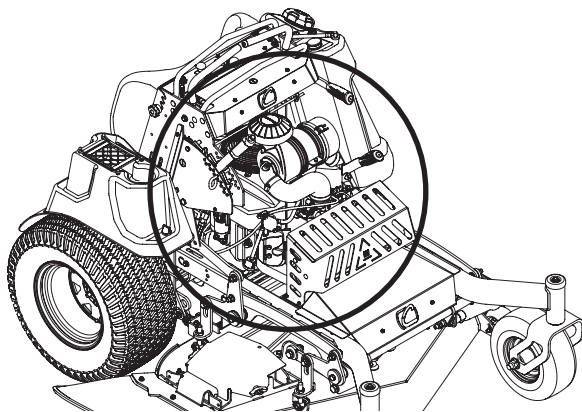

Figure 15
- Clean around the exhaust manifold, fuses, all wiring and harnesses, muffler pipe, muffler shield, engine intake screens and cooling fins, etc. See Figure 15.